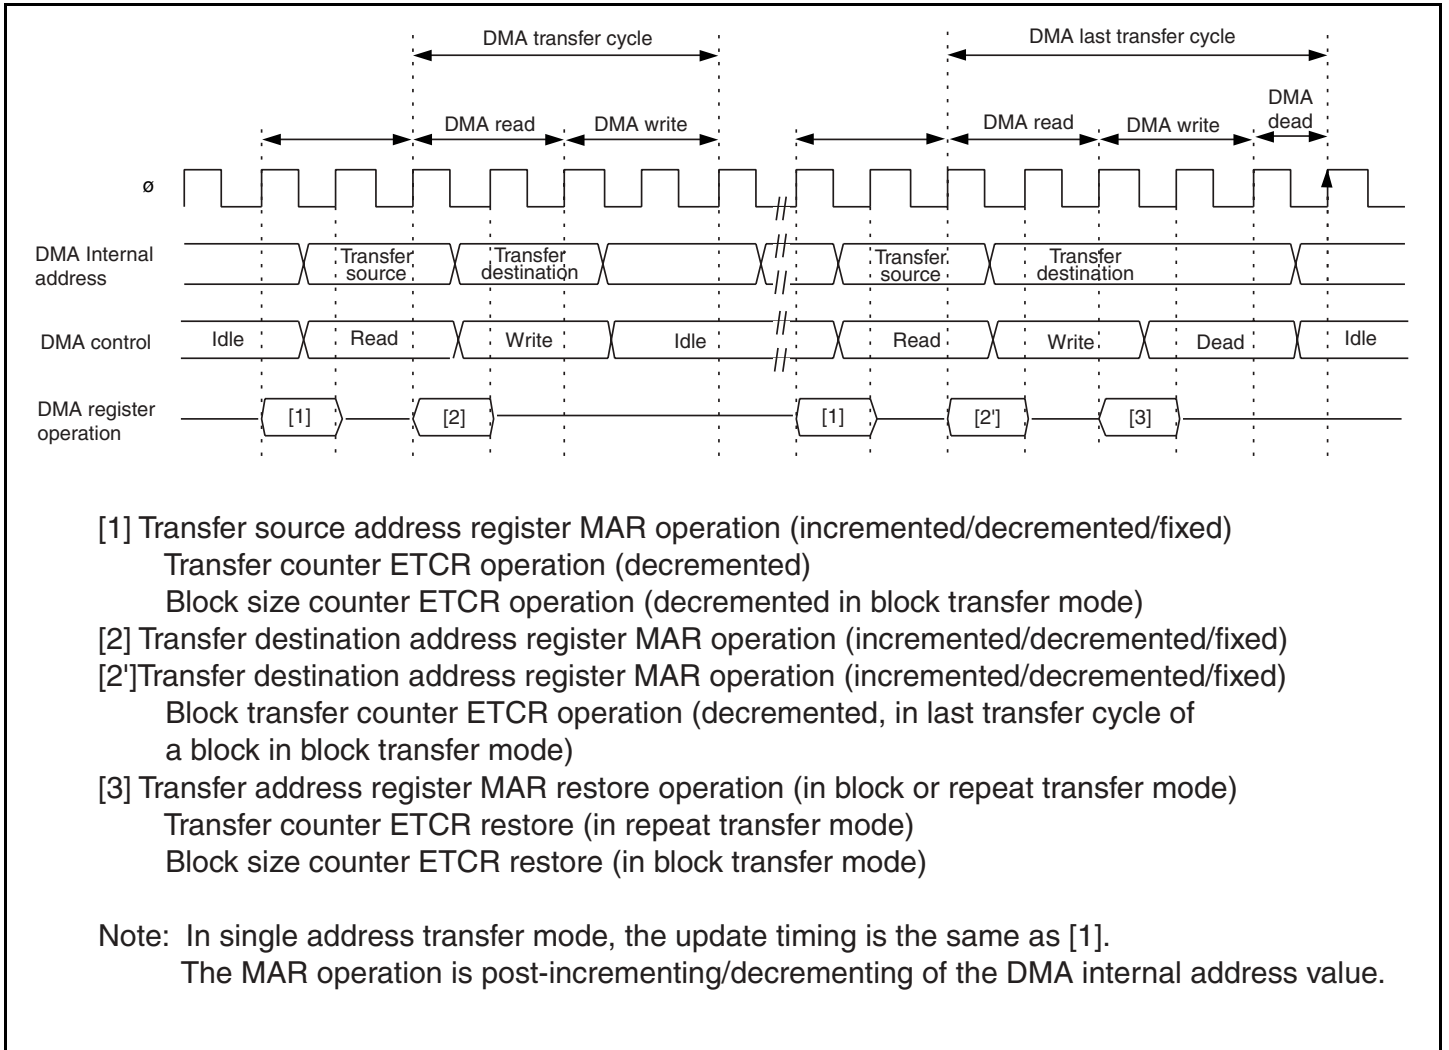

Figure 7.39 DMAC Register Update Timing
- DMAC control starts one cycle before the bus cycle, with output of the internal address. Consequently, MAR is updated in the bus cycle before DMA transfer. Figure 7.39 shows an example of the update timing for DMAC registers in dual address transfer mode.